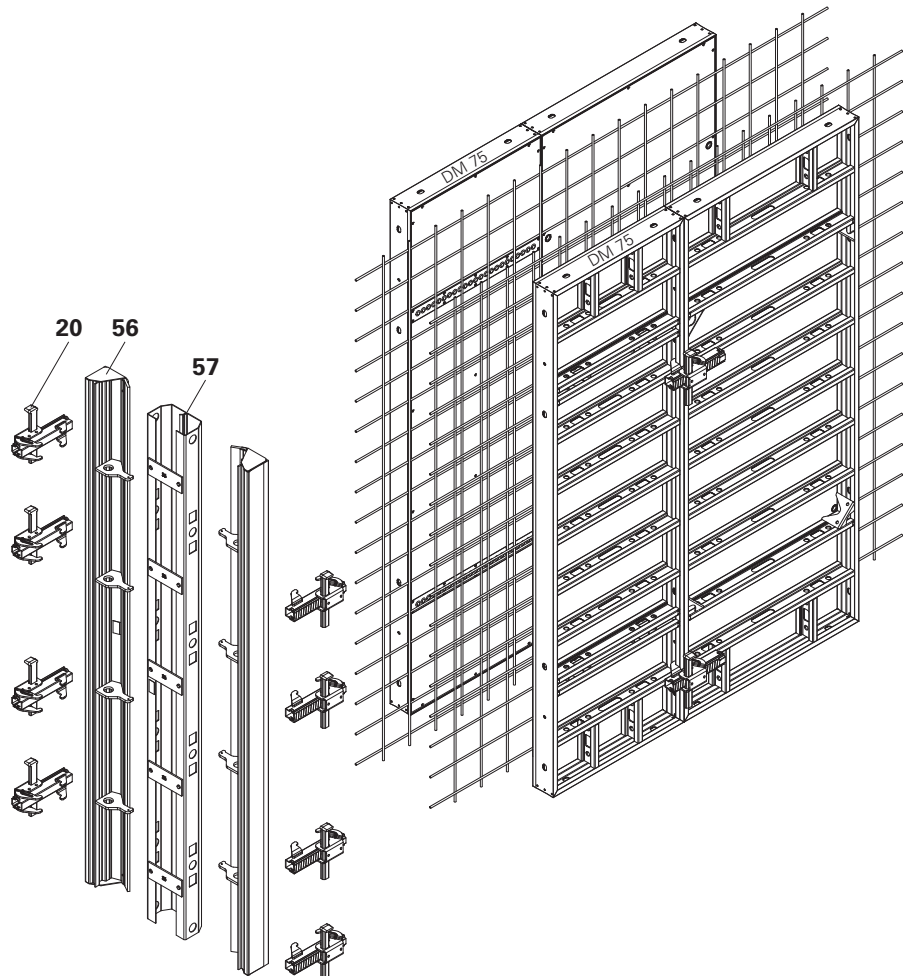

Fig. A11.03
2. Attach Outside Piece AT (56) by means of Alignment Coupler DRS (20).
4. Place Centre Piece MT (57) in position.
7. Install Outside Piece AT (56) in Centre Piece MT.
8. Fix with Alignment Coupler DRS (20).
- (Fig. A11.03)